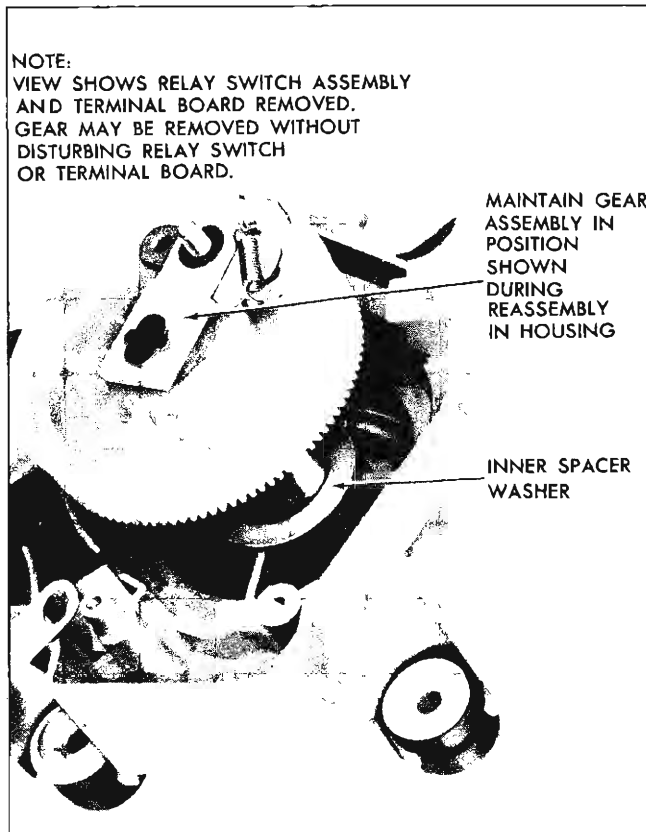

Fig. 70—Removing Gear Assembly
3. Slide gear assembly out of housing (fig. 70).
6. Assemble inner spacer washer over gear shaft and assemble gear mechanism in housing so that it is positioned with respect to the housing in the approximate location shown in Figure 70.